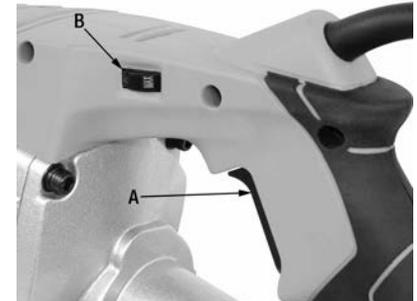

FIGURE 7
6. Turn on the tool by depressing the trigger (A) Fig.7. Allow the blade to come up to full speed before starting the cut.
8. Adjust speed of Bandsaw by adjusting the variable speed dial (B) Fig.7.